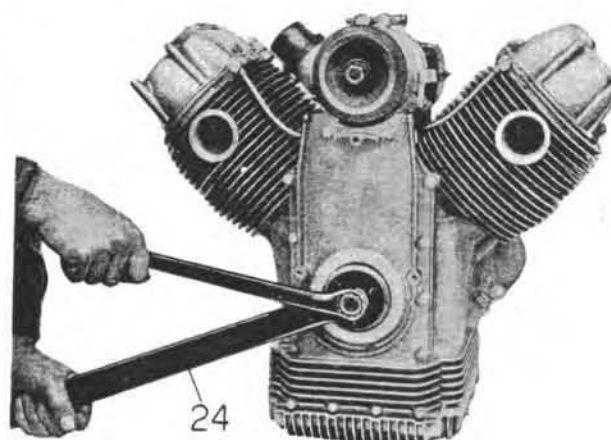

Fig. 17
- using the three bolts previously securing pulley, fit tool No. 12905300 on pulley hub (see 24 on Fig. 17) and thus holding crankshaft, unscrew crankshaft nut by means of a ring wrench.